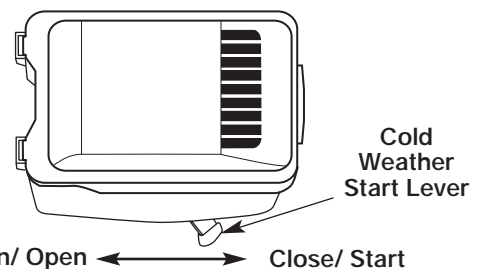

Fig. 13
**IF COLD...** For cold weather conditions (below 40°F), flip the Cold Weather Start Lever (Fig. 13) to the start/close position and continue to step 4. **DO NOT** flip this lever down if the temperature is above 40°F.